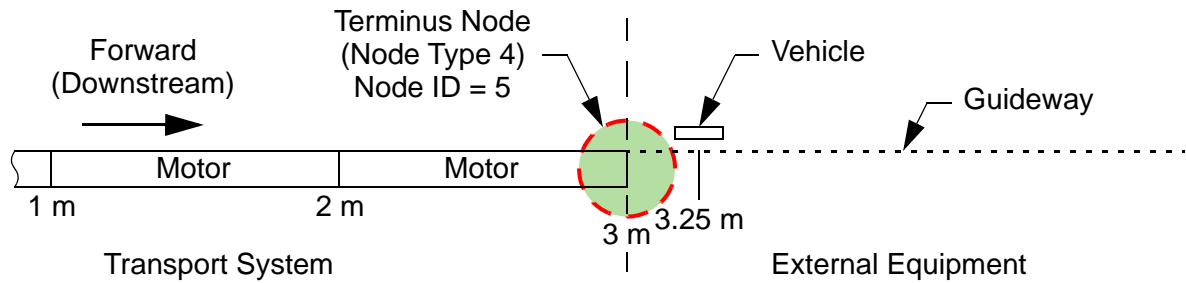

Figure 3-27: Terminus Node Entry Example
1. Whenever the entry area is clear the high-level controller sets the **ENTRY_CLEAR** signal High (see Figure 3-27).
The host controller checks the status of the Terminus Node (see Figure 3-27) by referencing the appropriate index from the MMI_node_status tag. The status shows that the node is clear for vehicle insertion (**ENTRY_CLEAR** = High, all other bits = Low).